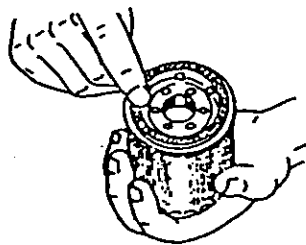

Figure 17
- Lubricate the new oil filter at gasket lightly with oil. (Figure 17)